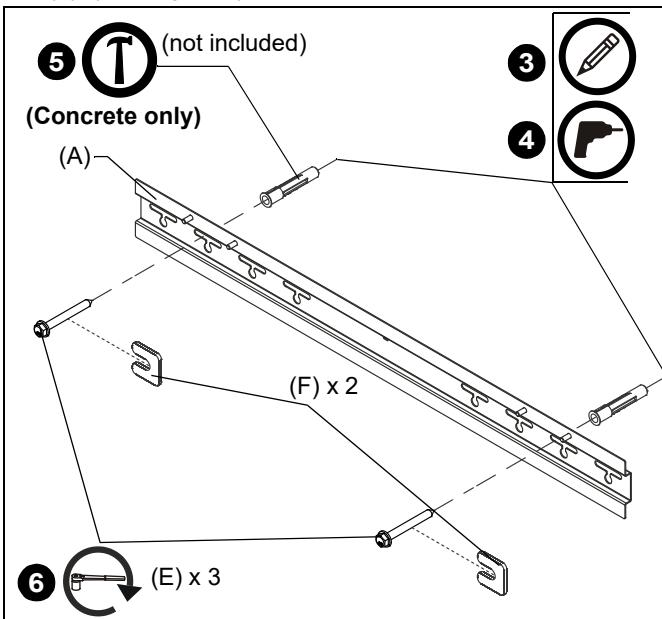

Figure 2
4. **Wood stud:** Drill two 7/32" x 2-3/4" pilot holes at marked locations. **Concrete:** Drill two 3/8" x 3-1/2" pilot holes at marked locations. (See Figure 2)
6. Secure upper wall plate (A) to wall using two 5/16 x 3-1/2" hex head lag screws (E) and two 5/16" installation spacers (F). (See Figure 2)